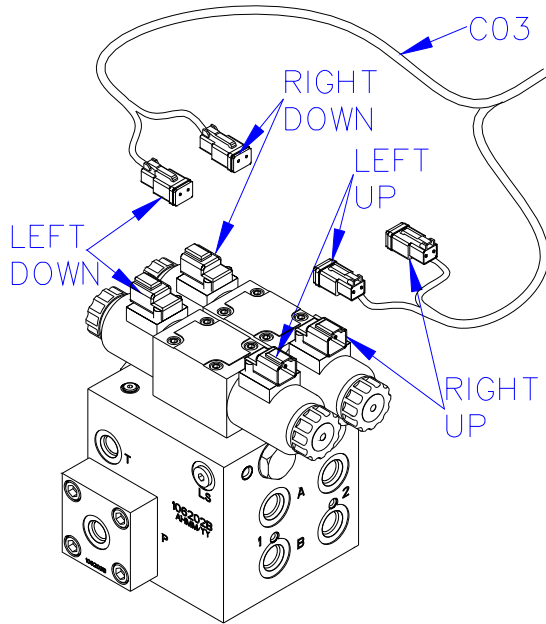

Figure 35: Valve Cable Connections
12. Install the 2-pin connectors from **C03** onto each NORAC valve as shown in **Figure 35**.